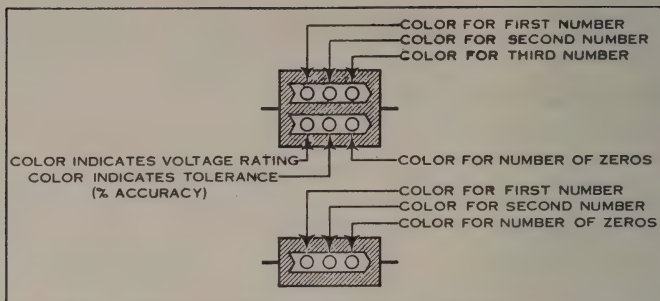

Figure 13 RMA Mica Capacitor Color Code Chart
EXAMPLE: A 56,300 MMFD. (0.0563 MFD.) capacitor of 10% tolerance and a 500 volt rating is indicated by a green dot (5), a blue dot (6), and an orange dot (3), on the top row; a red dot (2 zeros) (00), a silver dot (10% tolerance) and a green dot (or no color) (500 volts) arranged in the order shown in Figure 13. All capacitance values are given in micro-microfarads (MMFD). To convert to microfarads (MFD) move the decimal point 6 places to the left. Small capacitors are often marked with 3 dots as shown in Figure 13. For example, a 250 MMFD. unit (.000250 MFD.) would be marked Red (2), green (5), and brown (1 zero) (0).